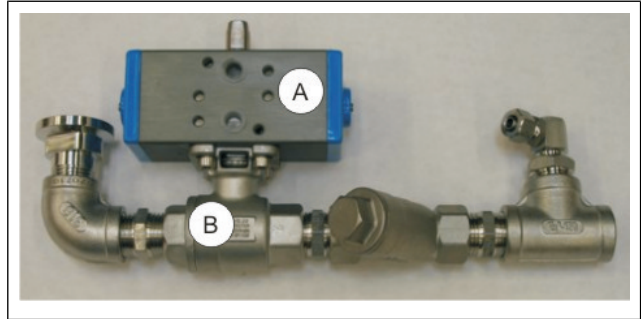

Fig. 4. Transport water valve.
6. Detach the actuator + ball valve (Fig. 4 parts A and B).